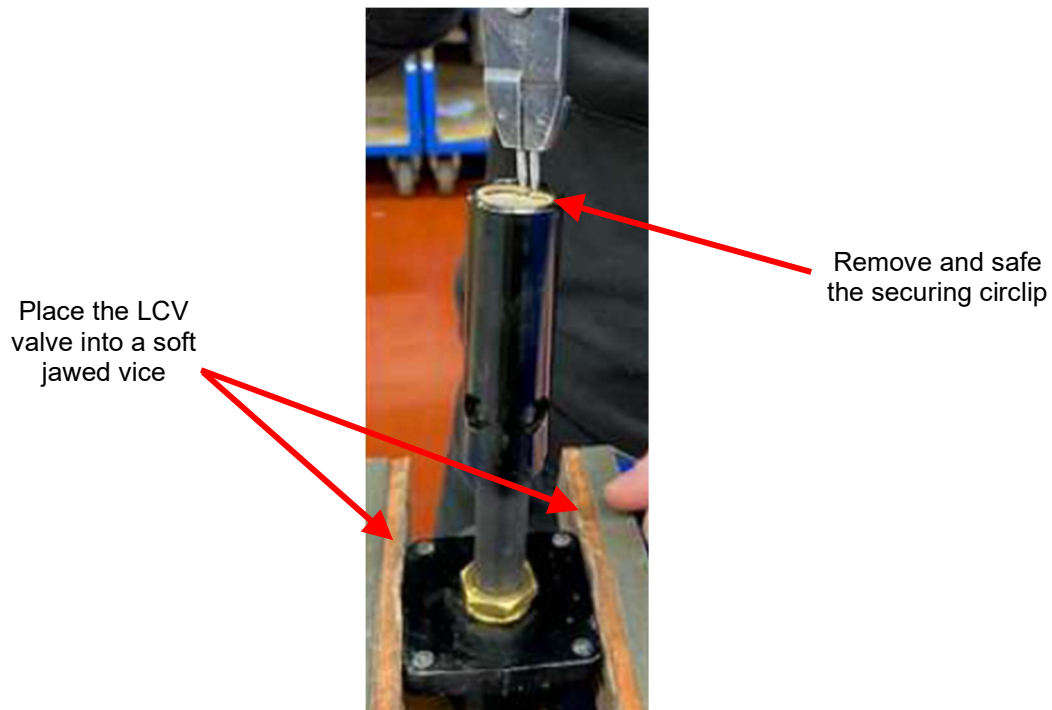

Figure 4: LCV Valve Circlip Removal
7. Place the LCV valve from Step 6 into a soft jawed vice as shown in Figure 4.
8. Remove and safe the securing circlip, see Figure 4.